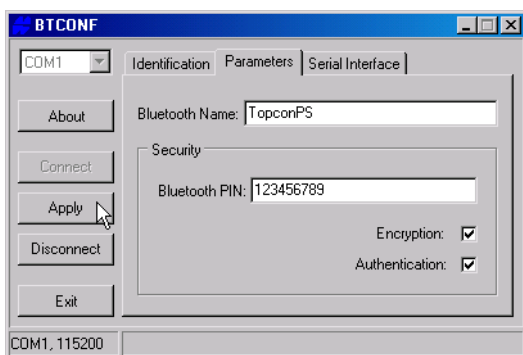

Figure 2-14. BTCONF Security Parameters
7. To set security parameters (Figure 2-14 on page 2-12), enter and enable the following, then click **Apply**: